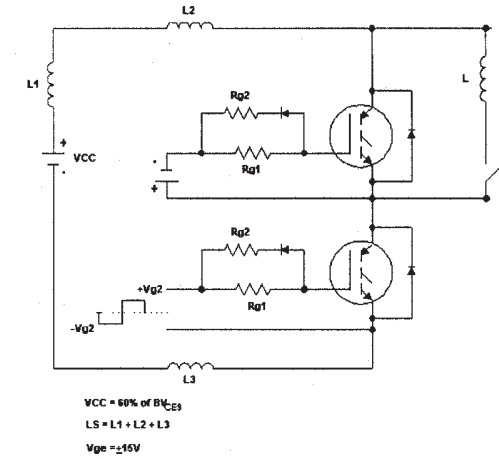

Fig. 17 - Test Circuit for Measurement of I_{LM} , E_{on} , $E_{off}(\text{diode})$, t_{rr} , Q_{rr} , I_{rr} , $t_{d(on)}$, t_r , $t_{d(off)}$, t_f
- ① Repetitive rating; $V_{GE} = 20V$, pulse width limited by max. junction temperature.
- ② See fig. 17
- ③ For screws M6.
- ④ For screws M5.
- ⑤ Pulse width $50\mu s$; single shot.